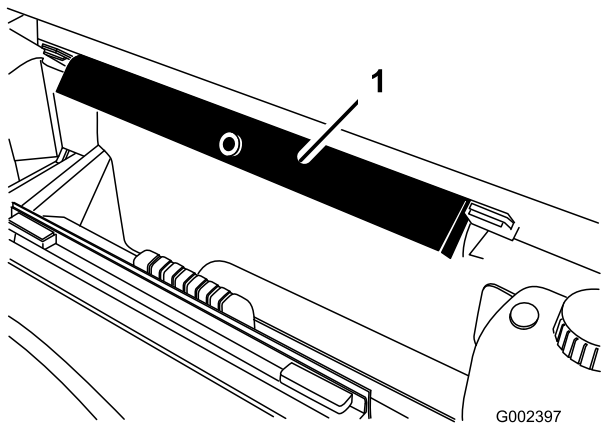

Figure 1
- B. Remove the bed support from the storage brackets on back of the ROPS panel (Figure 1).